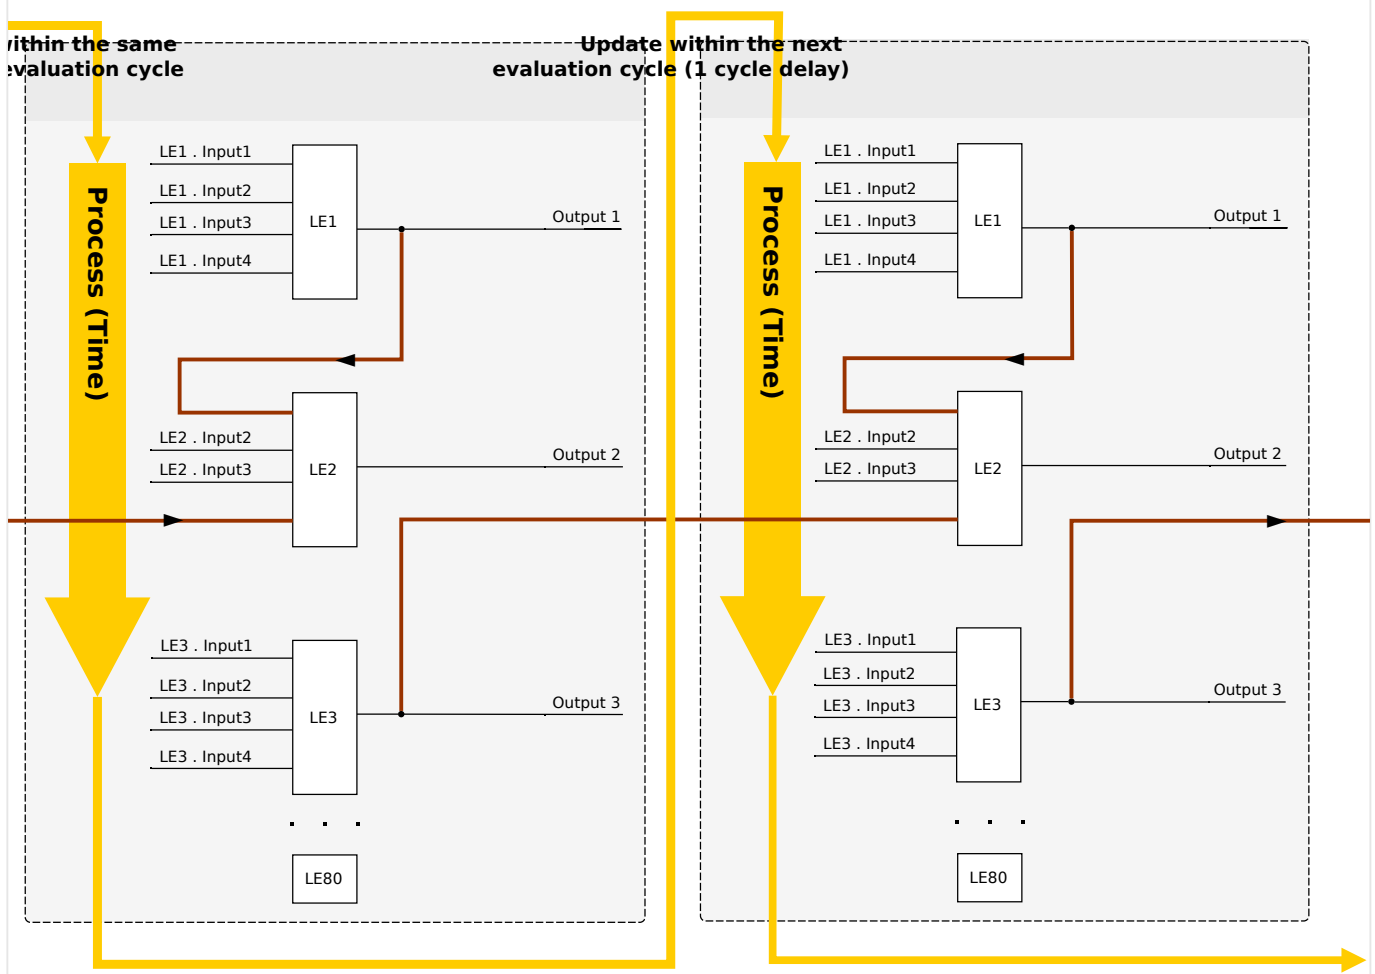

Fig. 187: Cascading in Descending Order.
- **Descending** sequence means that some output is fed into the input of a logic equation with **lower** number. For instance, diagram ↪Fig. 187 shows an example where the result of Logic Equation LE3 is used as an input of Logic Equation LE2.
Both ascending and descending sequences may be used and combined one with the other, with no immediate difference. However, due to the evaluation of all equations in ascending order the actual run-time values that are fed in at the input of an equation will have a different “age”, as is shown in ↪Fig. 186 and ↪Fig. 187 below.
In the example shown in Fig. 187 above, “Logic Equation 2” uses the output states of two other equations, “Logic Equation 1” and “Logic Equation 3”. The result of “Logic Equation 1” is used in ascending order and has therefore been evaluated within the same process cycle. The result of “Logic Equation 3” is used in descending order and has therefore been evaluated in the previous process cycle.